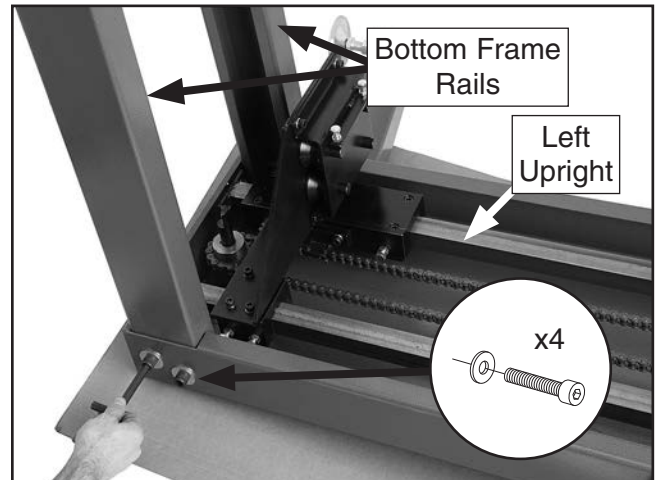

Figure 11. Second upright assembly.
3. Lay the left upright on a piece of cardboard, as shown in **Figure 11**. Attach the two bottom frame rails with (4) $\frac{3}{8}$ "-16 x $\frac{3}{4}$ " cap screws and (4) $\frac{3}{8}$ " flat washers.